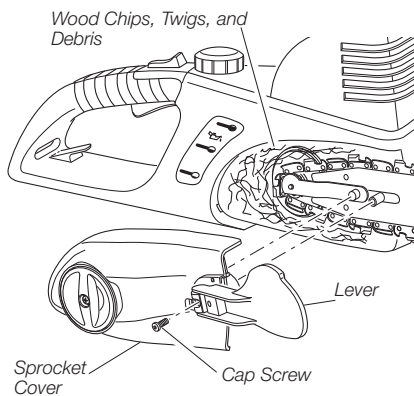
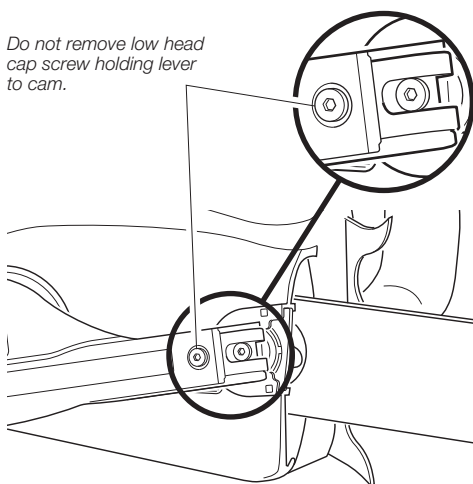

Figure 14 - Removing and Clearing Sprocket Cover of Debris
Figure 15 - Lever and Cam Screw Assembly Location
2. Grasp and pull open chain tensioning lever (see Figure 14).
4. Using a 5/32" allen wrench, loosen and remove cap screw attaching lever and sprocket cover to saw body (see Figure 14). **Note:** Do not remove low head cap screw holding lever to cam (see Figure 15).